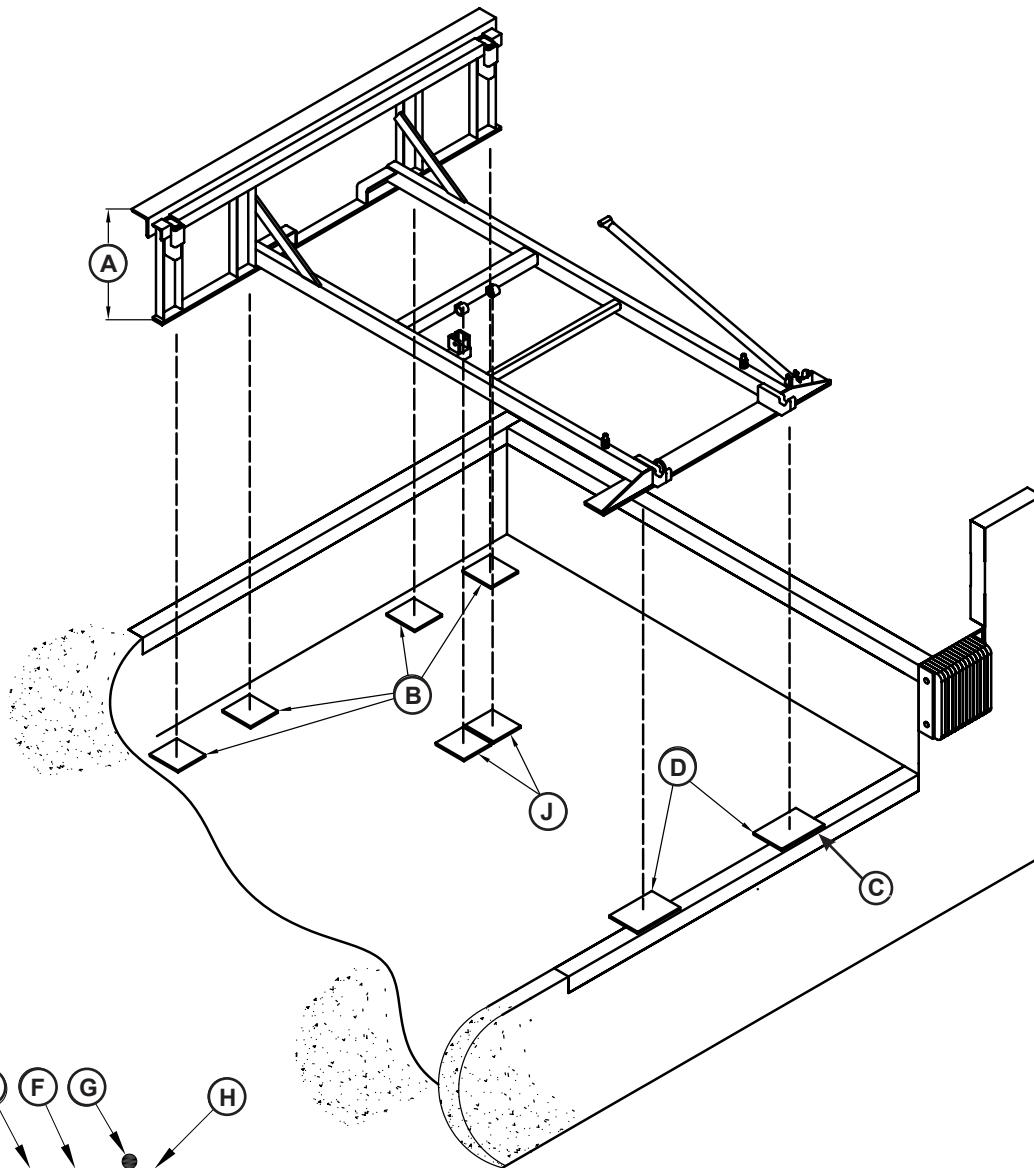

Figure 9
23. Install shims under lift arm (J, Figure 9 on page 14) at locations using an acceptable shimming method (see Figure 15). The lift arm pivot must be solidly shimmed the entire length of the lift arm pivot. Make sure the lift arm pivot is level from side-to-side.